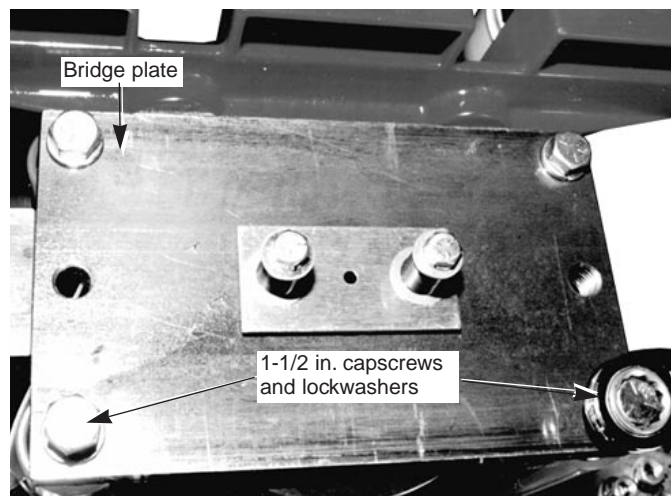

Figure 11.
1. In the top of the bridge plate, use the two 1-1/2 inch capscrews supplied with the kit and the two previously saved lockwashers to reattach the bridge plate (refer to Figure 11).